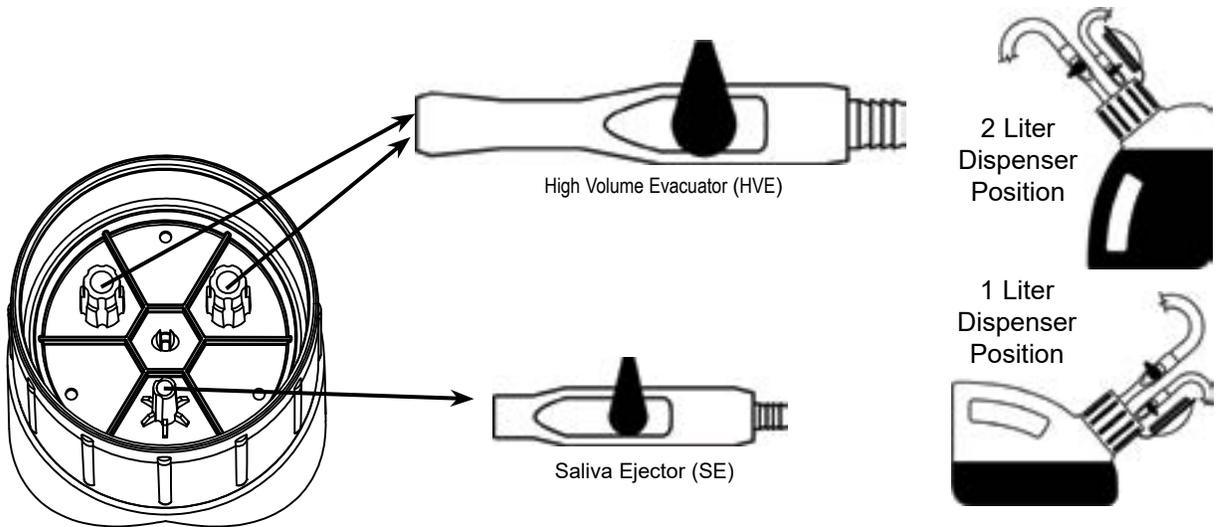

Figure 16. CleanStream Dispenser Cap Adaptor Locations
3. As shown by Figure 16, the interior of the CleanStream dispenser bottle cap is configured with three holes for the insertion of HVEs and SEs via provided adapters as follows.
4. Refer to Figure 16 and place dispenser in the 2-liter vertical position or the 1-liter horizontal position as necessary.